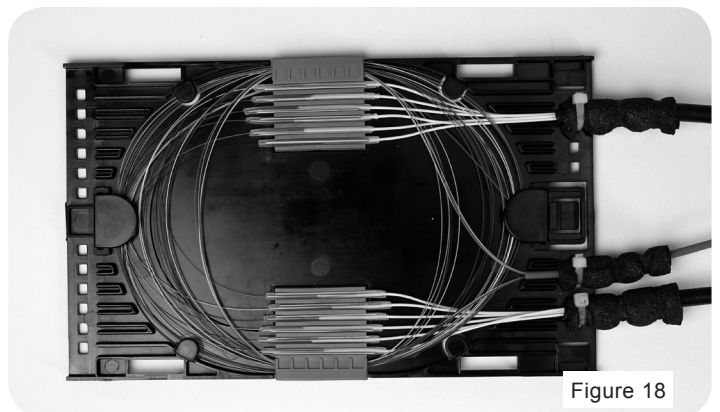

Figure 18
4. Once all splicing is complete, route the exposed fibers inside the splice tray. **(Figure 18)**